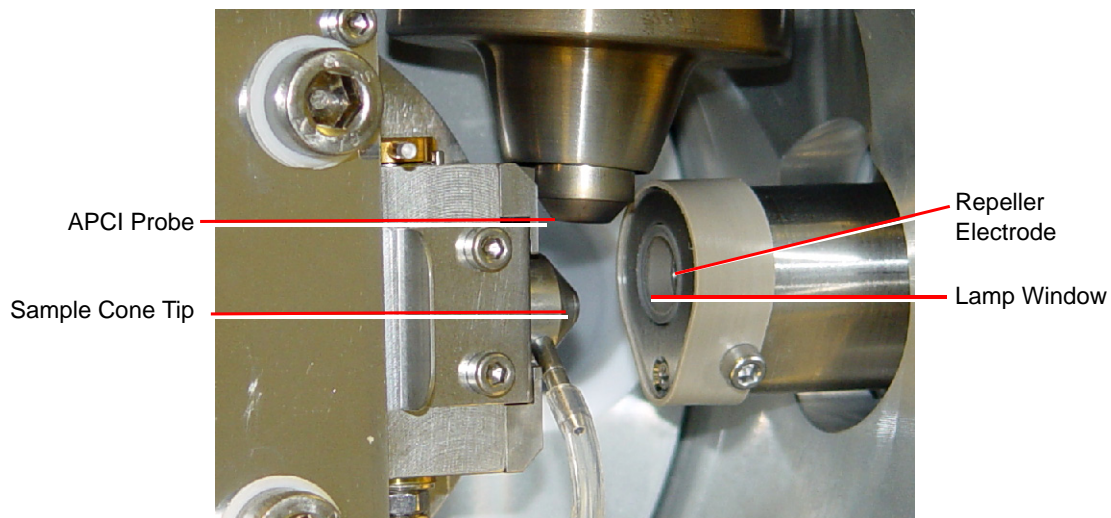

Figure 5-9 APCI Probe Position
7. Position the APCI probe so that it sprays midway between the lamp window and the sample cone aperture (Figure 5-9).